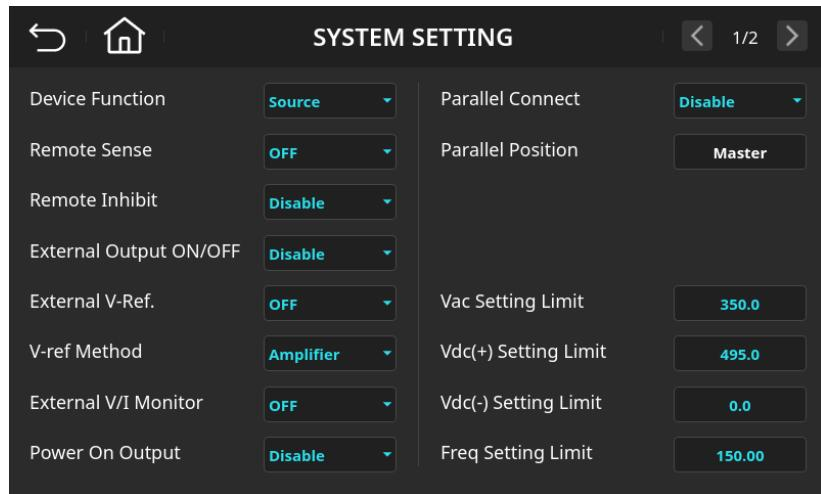

Figure 6-13 System Function Settings Page (Vdc(-) Setting Limit = 0.0)
2. Enter 0, then press the Enter key **Enter**; the value will update to "0.0", as shown in Figure 6-13.